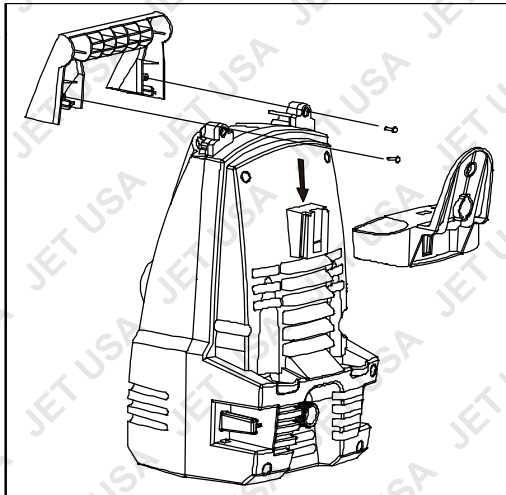

Figure 1a
1. Insert cable hook hold into the machine (figure 1a).